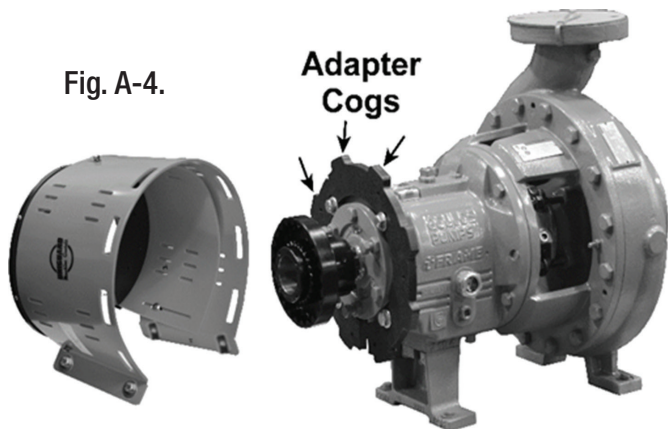

Fig. A-4.
3. Separate the flanged side of the telescoping barrels (pump end) slightly and wrap guard around Uniguard™ adapter ring while aligning openings into cogs of adapter ring as shown in Fig. A-4.